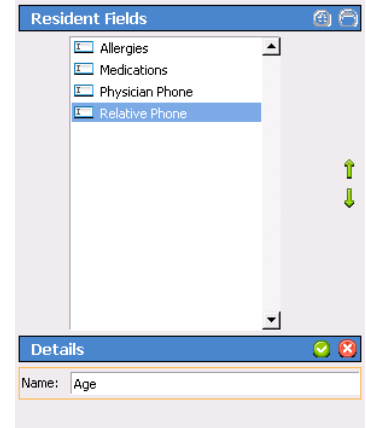

Figure 23: Custom Patient Information Fields
2. Click on the **Add** button in the **Patient Fields** area, shown in Figure 23.